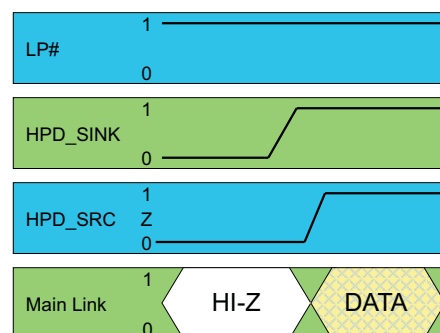
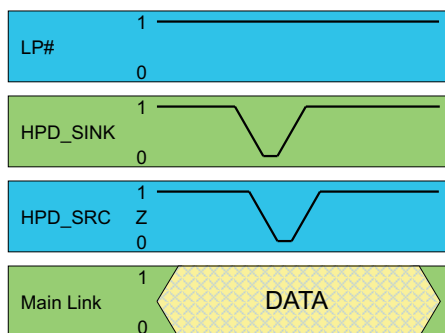
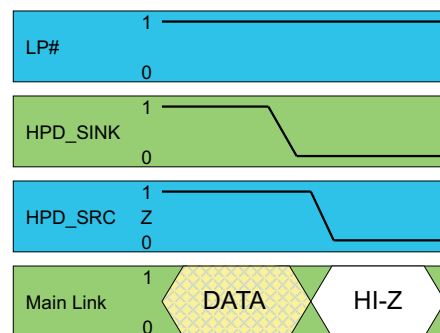

Figure 17.
Figure 18.
Figure 19.
- **Case two:** In this case HPD_SINK is initially LOW and the low power pin is HIGH. In this initial state the device is in a standby mode. Once the HPD input goes to a HIGH state the device will come out of the standby mode and will enter active mode enabling the main link. The HPD output to the source will follow the logic state of the input HPD. See Figure 17, where HPD_INV = L.
- In this case the HPD_SINK input is initially HIGH. The HPD_SRC output logic state will follow the state of the HPD_SINK input (when HPD_INV = L). If the HPD_SINK input pulses LOW, as may be the case if the Sink device is requesting an interrupt, the HPD_SRC output to the source will also pulse Low for the same duration of time with a slight delay (see Figure 18). The delay of this signal through the SN75DP120 is specified as $t_{PD(HPD)}$. If the duration of the LOW pulse exceeds $t_{T(HPD)}$ the device will assume that an unplug event has occurred and enter the low power state (see Figure 19). Once the HPD_SINK input goes high again the device will return to the active state as indicated in Figure 17.